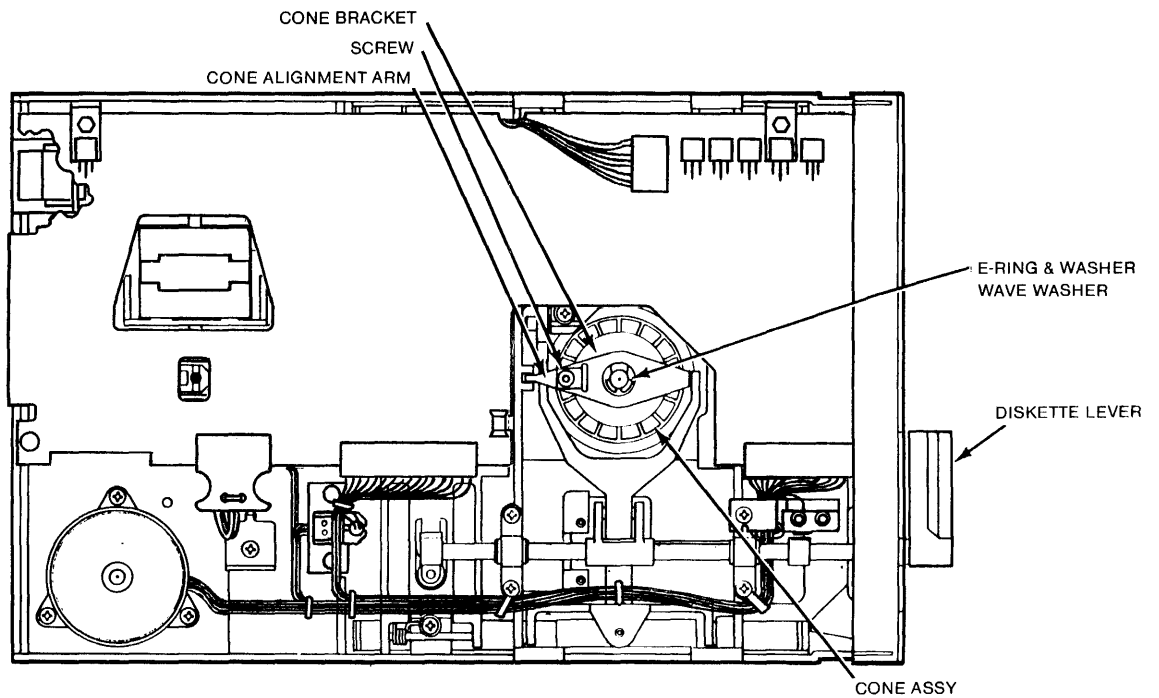

Figure 5-4
- A. Remove the screw that attaches the cone bracket to the cone alignment arm (see Figure 5-4).